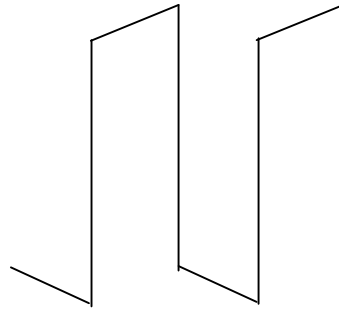

Figure 2 -Over (decrease level)
- vi) Adjust the Reference Deviation digital potentiometer until the top of the waveform is flat. If the waveform top droops increase the level (see Figure 1) and if it peaks reduce the level (see Figure 2).